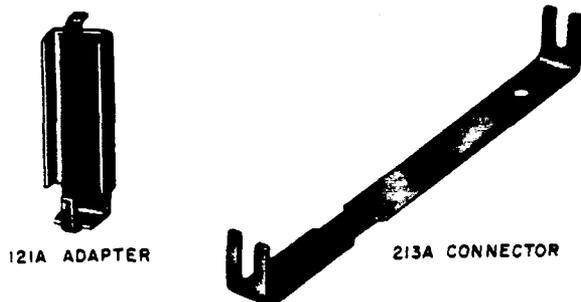

Figure 82—121A Adapter and 213A Connector
13.02 The 98A (DA) protector can be converted to fuseless operation by adding two 121A adapters and two 213A connectors (Figure 82) as follows: